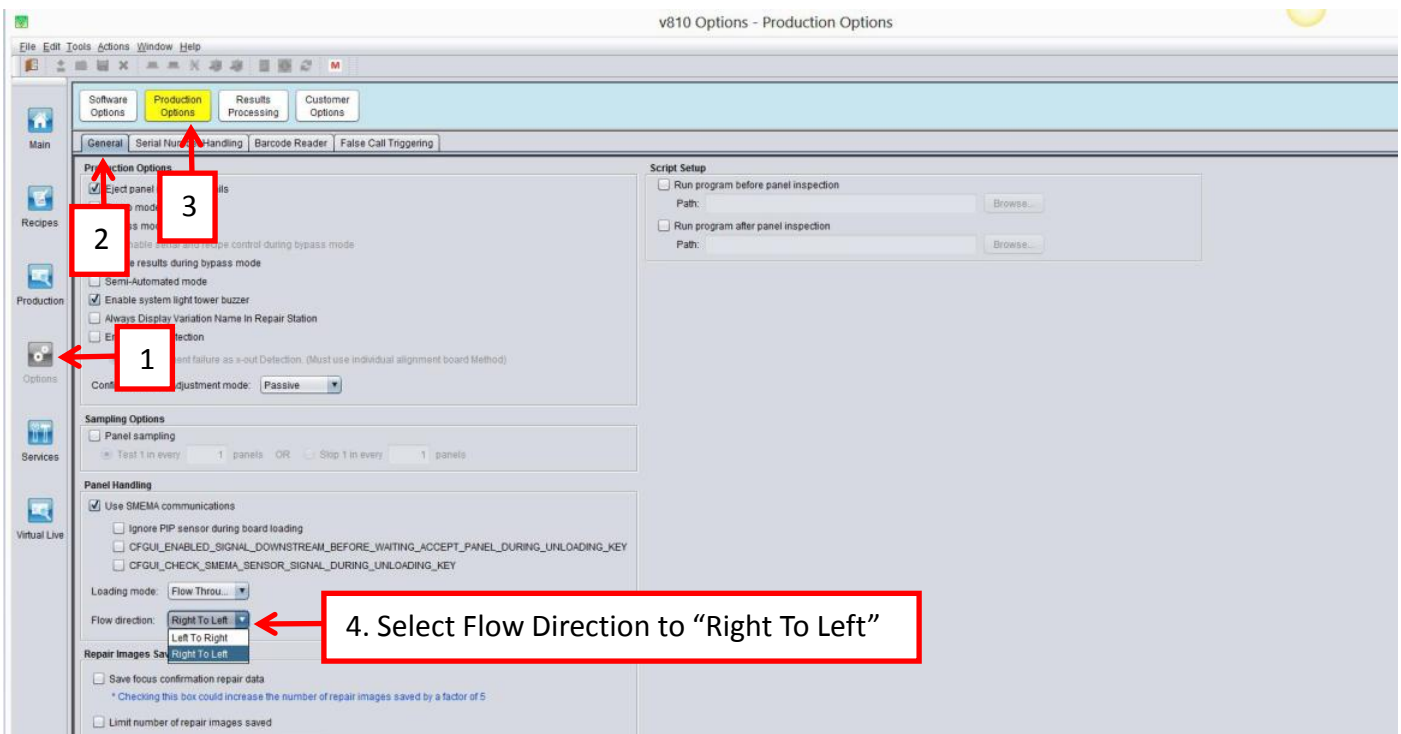

Figure 14 Production Option
3. At V810 GUI, go to Services->Production Options->General. Select "Right To Left" as shown in Figure 14